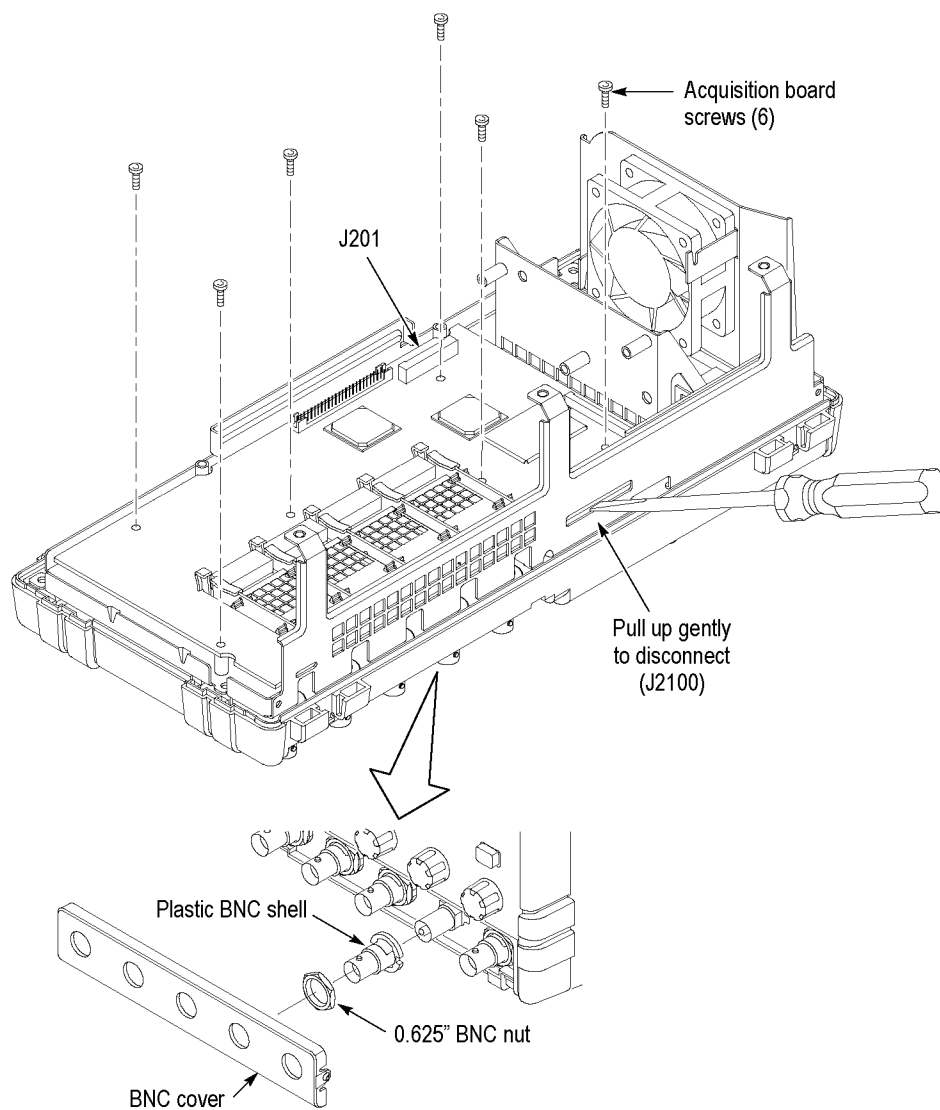

Figure 5: Using a screwdriver to remove the Acquisition board
Removal. To remove the Acquisition board, follow these steps. (See Figure 5 on page 52.)
2. Remove the BNC cover by prying up on the exposed edge. (See Figure 5 on page 52.)
Installation. To install the Acquisition board, follow these steps. (See Figure 5 on page 52.)